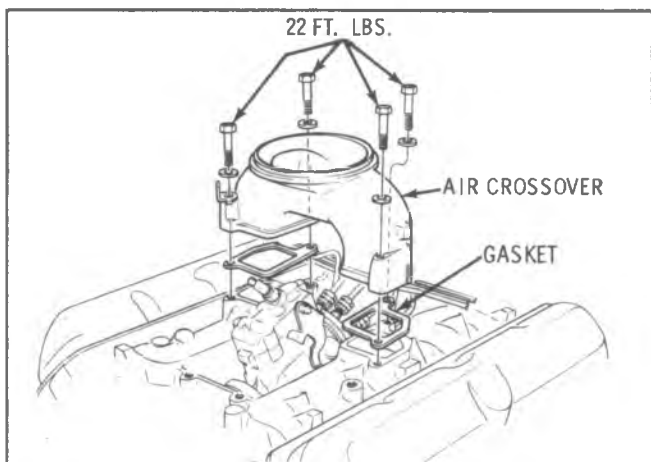

Fig. E-11—Air Crossover
3. Remove screened covers J-26996-2 from intake manifold and install air crossover. (Fig. E-11)